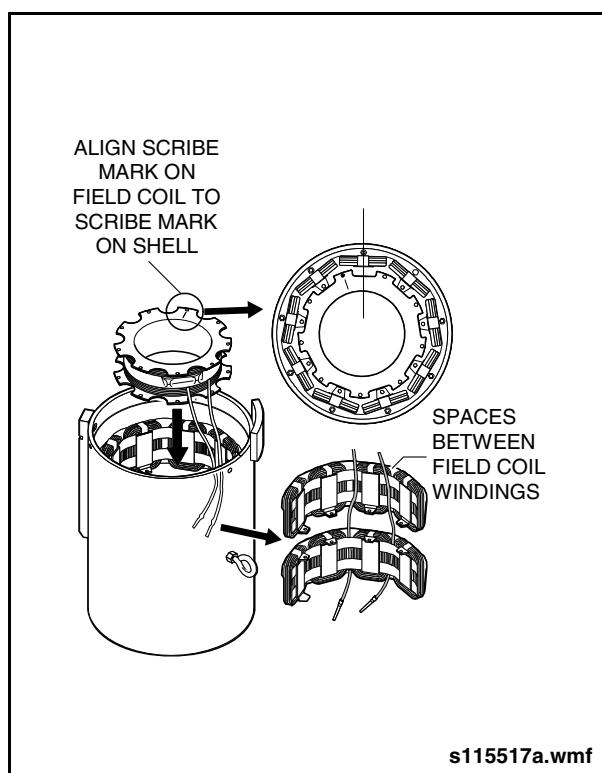

Fig. 9-25: DE Field Coil Installation
- a. Insert field coil from drive end, aligning with scribe mark on shell. See "Fig. 9-25: DE Field Coil Installation" on page 32.